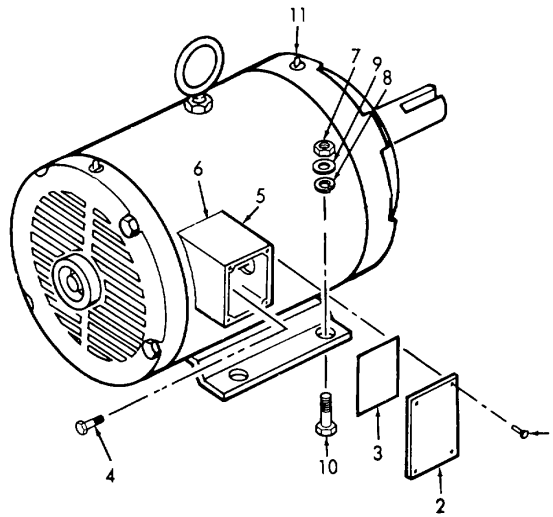

Figure 3-27. Electric Motor, Removal.
a. *Removal.* (Refer to Figure 3-27).